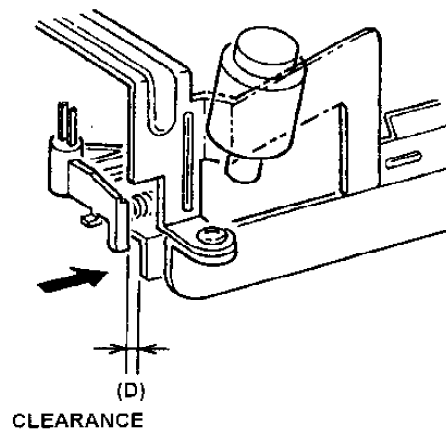

Fig.6-17-3 Cleaner Solenoid Position Adjustment (2)
1. Observe the clearance (A) between Cleaner Roller and cylinder Unit as shown in **Figure 6-17-3**. And make sure that it is within 1.0 to 1.2mm.
2. If not, loosen the 2 screws (B) and adjust the position of Cleaner Base Plate by moving arrow direction (A→A) using the Eccentric driver so that the clearance (A) is within specification. And tighten the 2 screws (B).